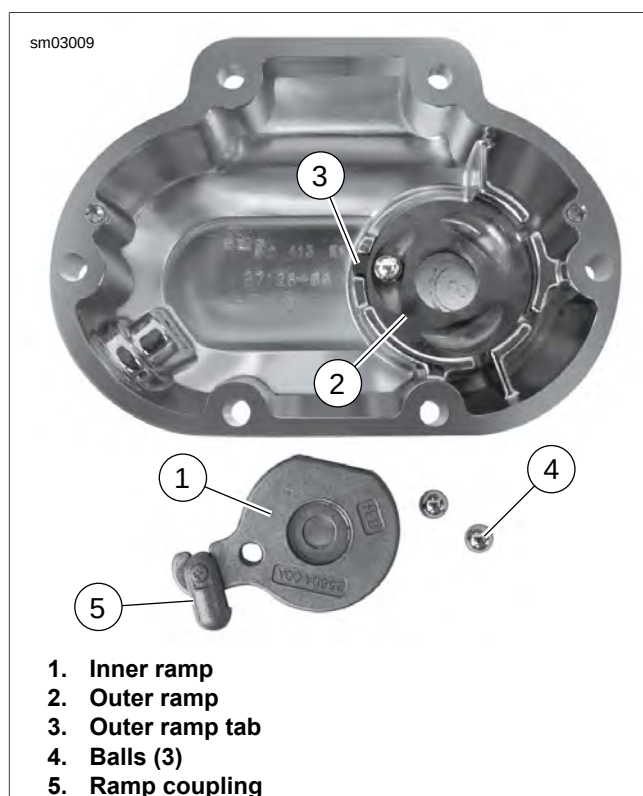

Figure 6-6. Coupling and Ramp Assembly
7. See Figure 6-6. Remove balls (4) and outer ramp (2).